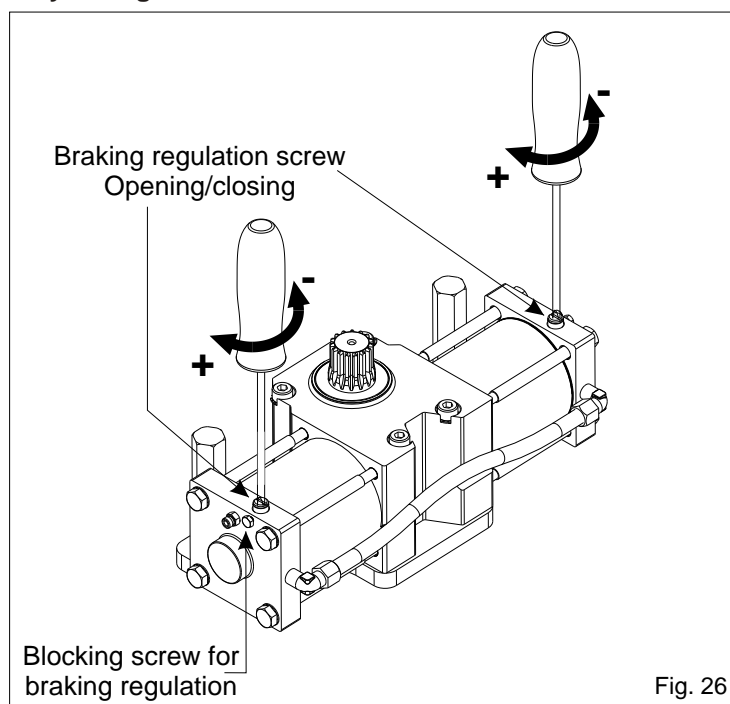

Fig. 26
8.1. It is possible to regulate the leaf slowdown in opening and in closing, through the braking adjusting screw (Fig. 26).